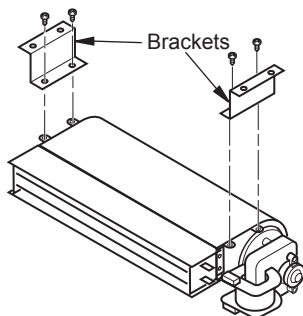

Figure 13 - Removing Brackets from Heater/Blower
6. Remove brackets from heater/blower (see Figure 13). Save brackets and screws.